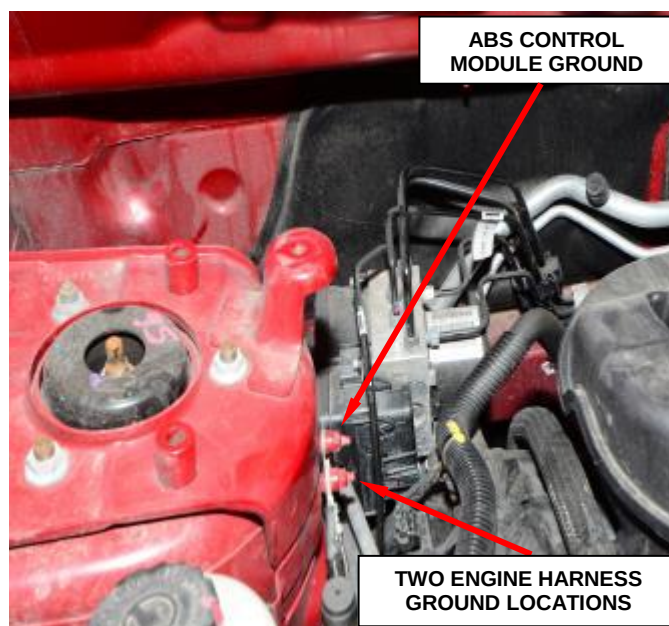

Figure 8 – Ground Eyelets
18. Remove the nuts securing the ABS control module and the two engine harness ground eyelets and remove the eyelets from the ground studs (Figure 8).
26. Position the ABS control module ground wire eyelet and the two engine ground wire eyelets to the studs and install the two nuts. Tighten the ground wire eyelet nuts to 7 ft. lbs. (10 N·m) (Figure 8).